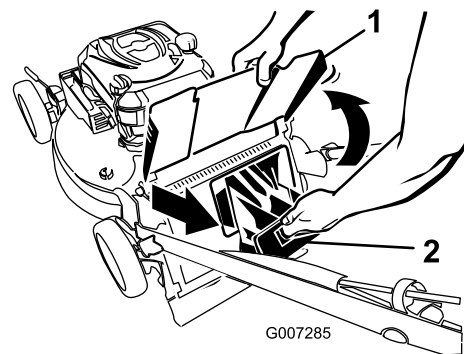

Figure 22
2. Raise and hold up the discharge deflector (Figure 22).
3. Pull out the rear-discharge plug (Figure 22).